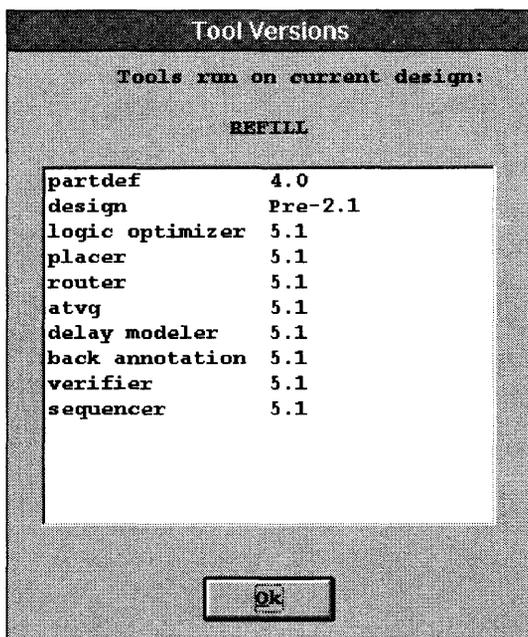

Figure 5-11 Typical Tools Versions dialog box
*Tool Versions* is provided for diagnostic purposes. *Tool Versions* lists the tools that have been run on the current design, including the version number of each tool listed (Figure 5-11).